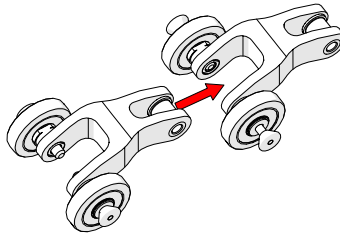

Fig. 25 - Align mounting holes
2. Align the pins with the mounting holes of the component to be connected (Fig. 25).